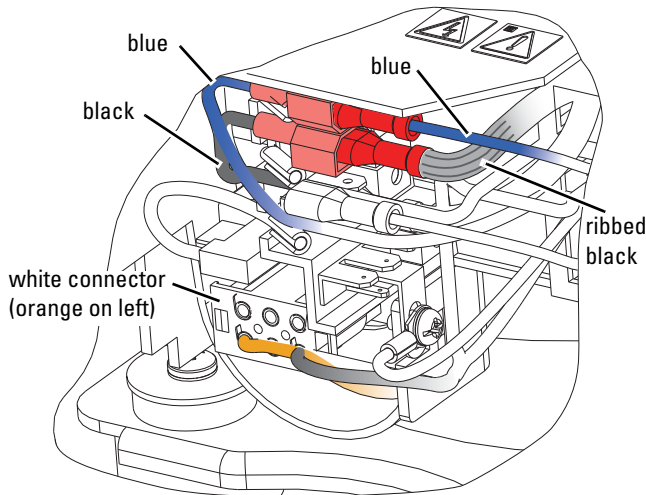

Figure 7: 230 VAC new wiring connections
2. Unplug the white connector with the orange and black wires from the bottom 2 pins on the compressor. On newer models this connector will be black and the wires will be orange and white; the orange always goes to the left (Figure 7).
3. Disconnect the blue wire from the capacitor/relay assembly from the blue wire from the power supply (Figure 7). The new power supply will have a gray wire.
Refer to Figure 7 for steps 9 through 11.
10. Connect the blue wire from the capacitor/relay assembly to the blue wire from the power supply (Figure 7). On newer power supplies the blue wire from the power supply will be gray.